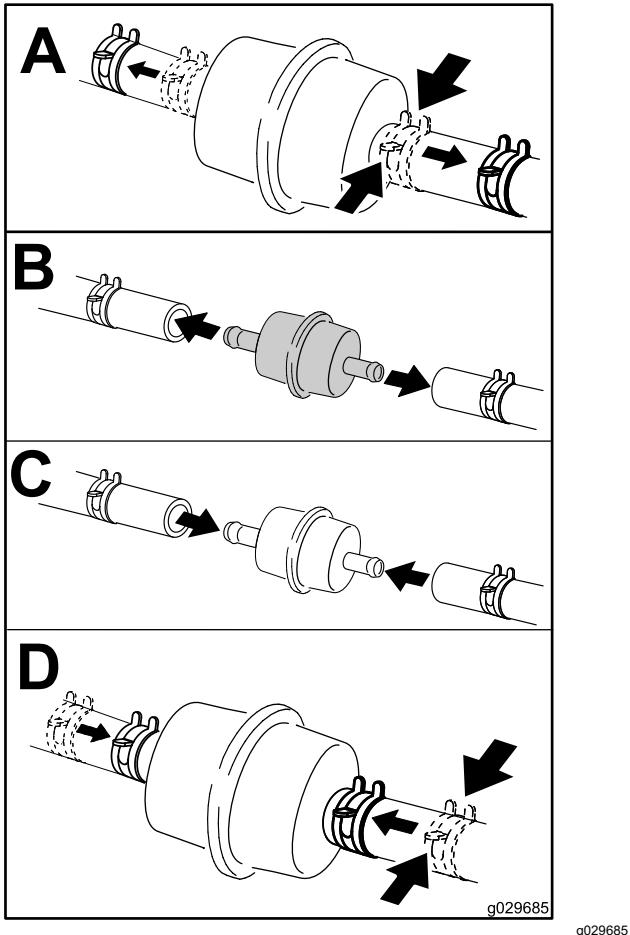

Figure 42
6. Place a clean container under the fuel filter and replace the fuel filter as shown in Figure 42.